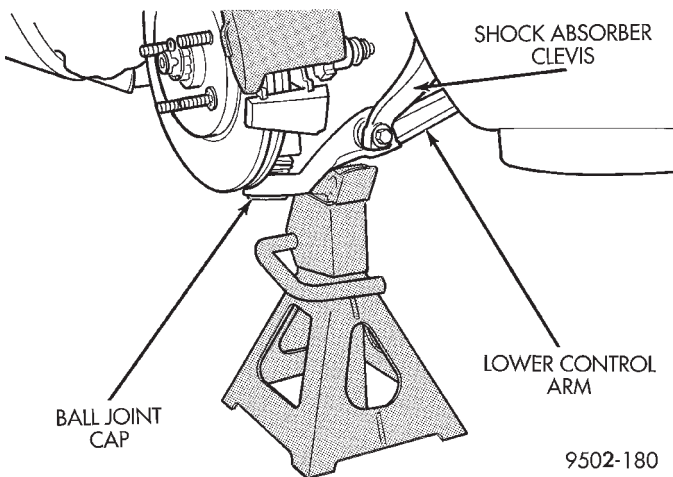

Fig. 11 Lower Control Arm Correctly Supported By Jack Stand
CAUTION: When supporting lower control arm with jack stand, do not position jack stand under the ball joint cap on the lower control arm. Position in area of lower control arm shown in (Fig. 11).
(6) Lower vehicle to the ground with a jack stand positioned under the lower control arm (Fig. 11). Continue to lower vehicle so the total weight of the vehicle is supported by the jack stand and lower control arm.